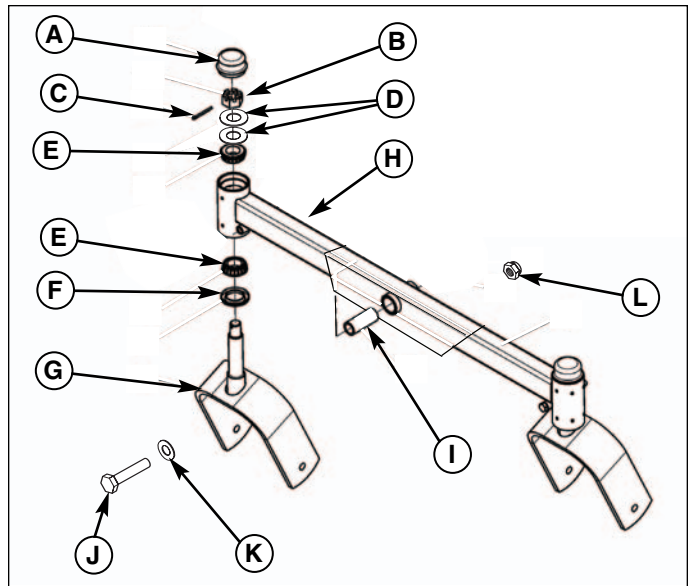

Figure 9. Caster Pivot Frame Assembly
4. Cut the (3) existing black tie wraps that fasten the headlight wire harness to the front of the frame. Refer to Figure 9. Remove the 3/4" hardware holding the caster pivot frame and remove the caster pivot frame assembly.
11. Remove the caster wheels yokes from the old front end assembly. Refer to Figure 9, install the removed yokes (G) and spacer (I) in to the new front end assembly. If needed, clean and re-grease tapered bearings before installation. Install the new caster pivot frame (H) to the frame with the new 3/4" hardware (J, K, L) provided.